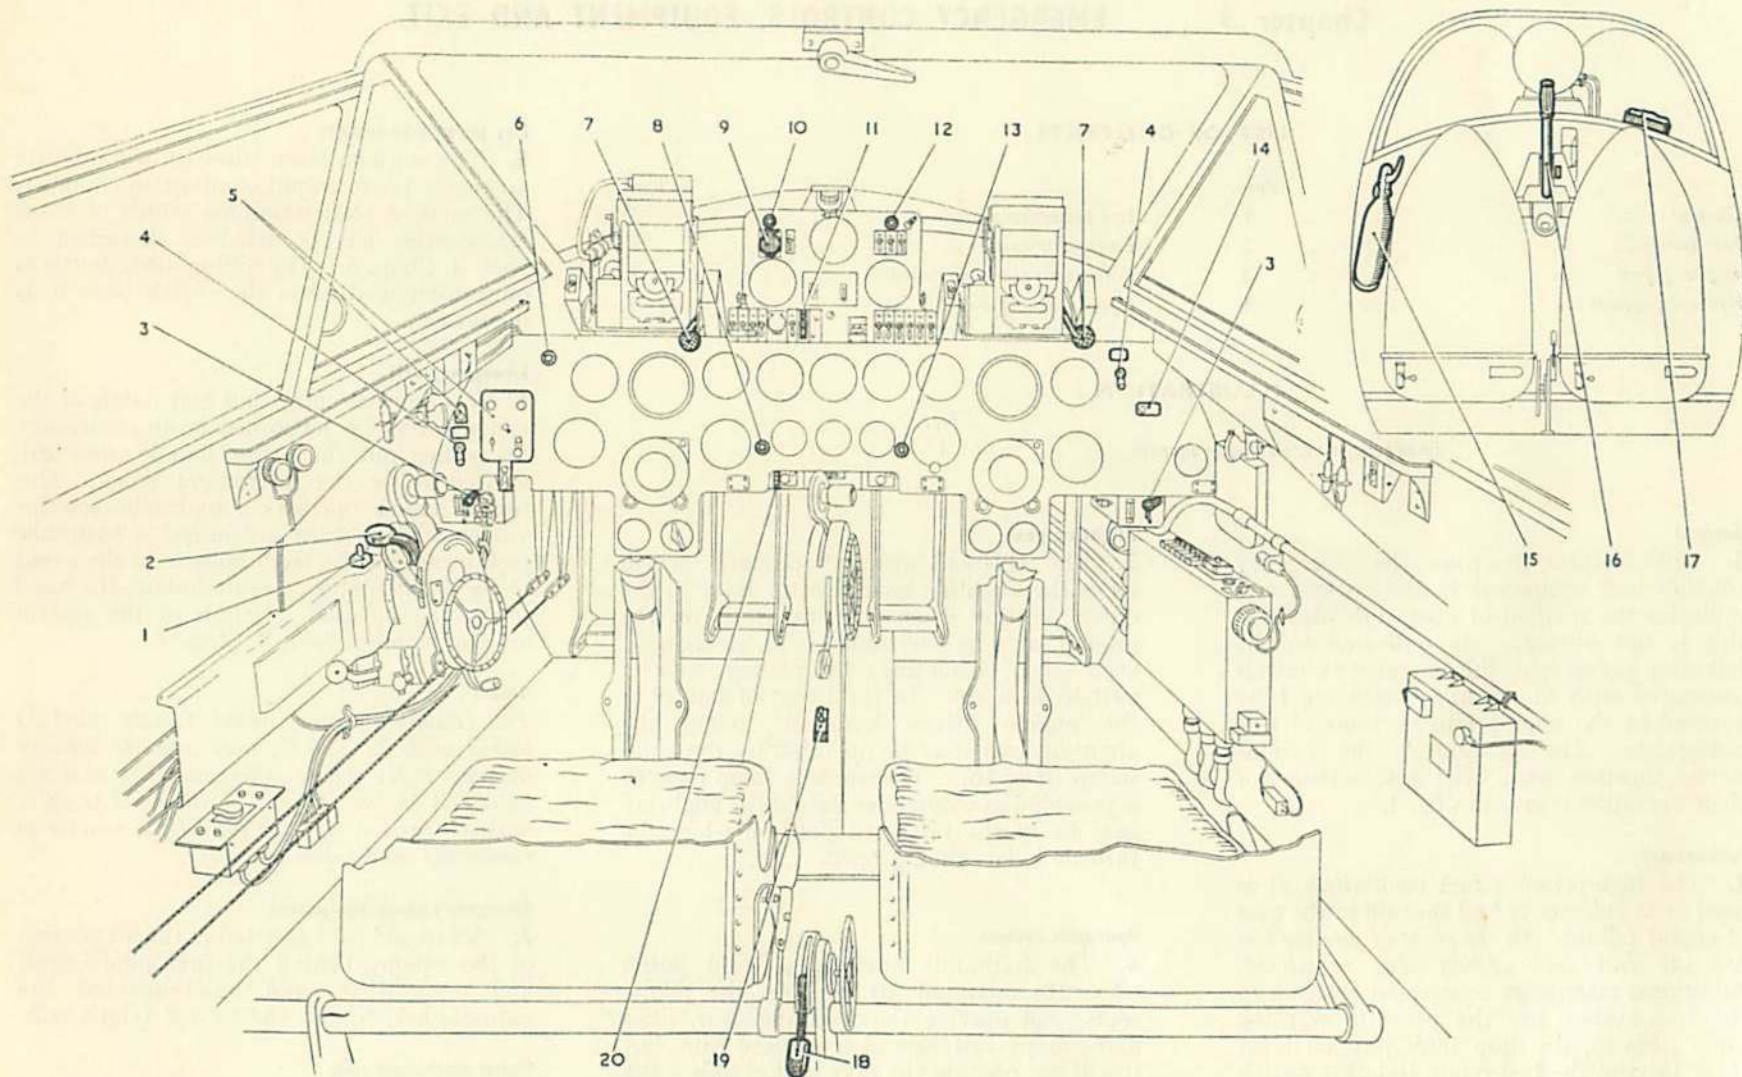

Fig. 1. Emergency controls and equipment
**1.** This chapter describes the emergency controls and equipment in the cockpit and indicates the method of operation wherever this is not obvious. As indicated in the following paragraphs, the emergency controls associated with the main systems are fully covered in the appropriate Sections of this publication. The location of the various items, together with brief instructions for their operation is given in fig. 1.
KEY TO FIG. 1 (EMERGENCY CONTROLS AND EQUIPMENT)